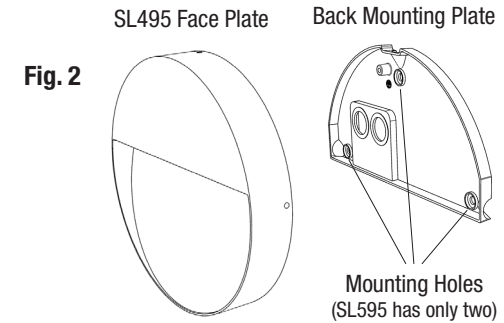

Fig. 2
3. Center junction box between mounting holes on Mounting Plate and level side to side against the wall. **Fig. 1** Use mounting holes on Mounting Plate as a template to mark the positions on the wall for hanging screws (by others). Ensure back plate is level. **Fig. 2**
2. Attach Conduit Coupling to Mounting Plate using Lock Nut (provided by other). **Fig. 2**